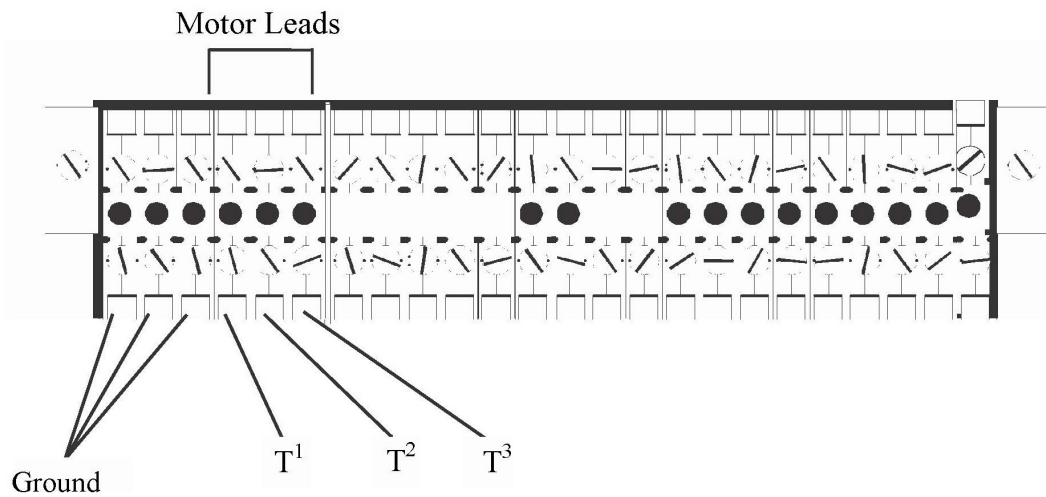

Figure 30: Ground Connections on Terminal Block
1. Connect the grounding wire (ground wires and shield wire) to the ground terminals. (See Figure 30)